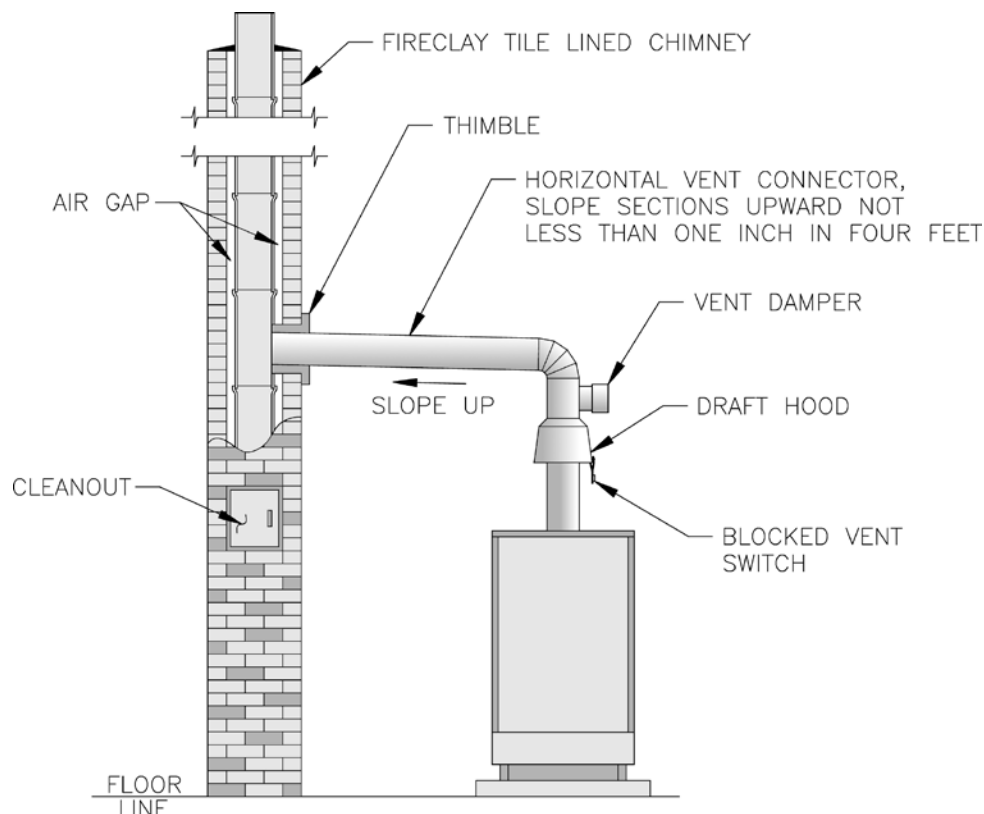

Figure 27: Typical Vent System
F. Install Vent Connector from draft hood or vent damper to chimney. See Figure 27.